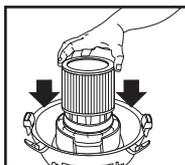

FIGURE 24
26. With the tank cover in an upside down position, slide the cartridge filter down over the lid cage, pushing until the filter seals against the cover. **FIGURE 24.**